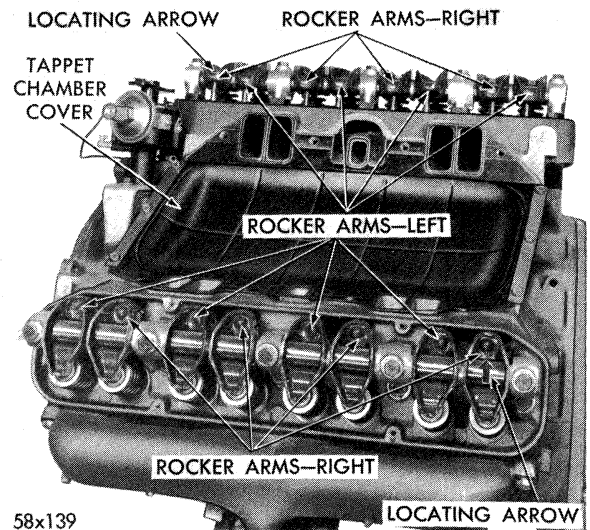

Fig. 49 — Rocker Arms Installed
Place the new cylinder head cover gaskets in position and install cylinder head covers. Tighten the bolts to 40 inch-pounds torque. Install exhaust manifolds and tighten the bolts to 30 foot-pounds torque. Adjust spark plugs to .035 inch gap and install the plugs, and tighten to 30 foot-pounds torque with Tool C-3054. Install the tappet chamber cover and tighten end bolts to 8 foot-pounds torque (Fig. 49).
If the rocker arm assemblies have been disassembled for cleaning, inspection, or replacement, refer to Figure 49 and 50 for proper reassembly.
**NOTE:** The right and left rocker arms must be installed on rocker shaft, as shown in Figure 49. The stamped arrow on rocker shaft must be on top and the arrow must point toward the push rod socket of the rocker arm. This is necessary to provide proper lubrication to the rocker assemblies. The two wide brackets must be installed with the oil feed grooves facing the push rod side of rocker arm, as shown in Figures 49 and 50.